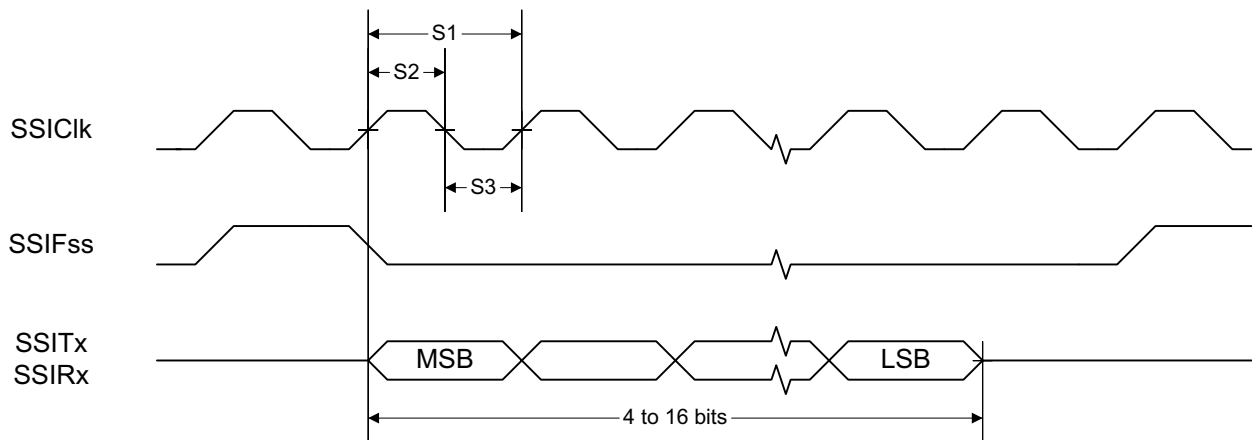

Figure 8-1. SSI Timing for TI Frame Format (FRF = 01), Single Transfer Timing Measurement
- (1) Refer to SSI timing diagrams Figure 8-1, Figure 8-2, and Figure 8-3.
(2) When using the TI-provided Power driver, the SSI system clock is always 48 MHz.